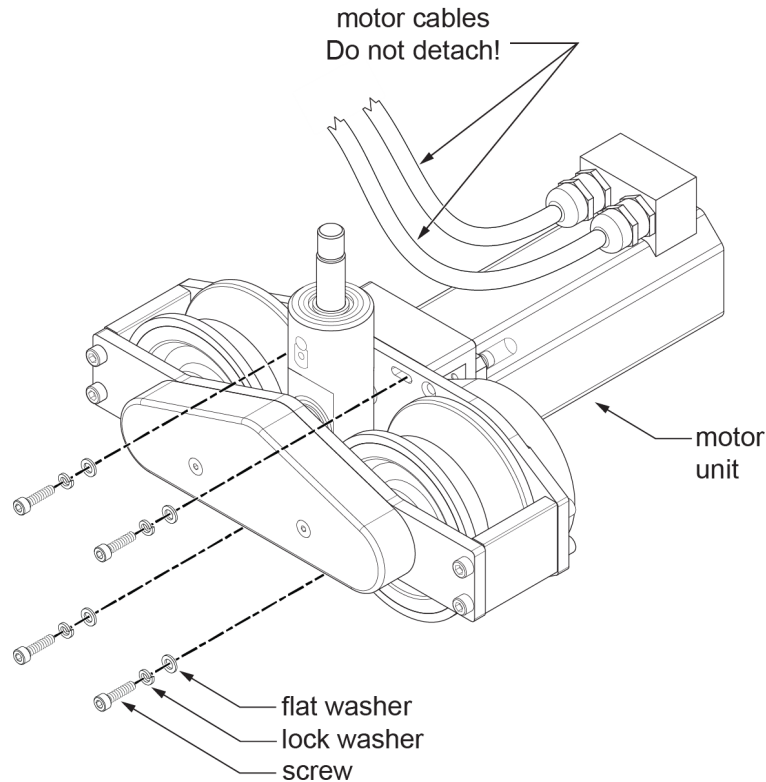

Figure 14 - Removing the Motor Unit from the Drive Wheel Unit
1. Use the 4 mm hexagonal wrench to remove the four screws that attach the drive wheel set to the motor unit (see **Figure 14**).